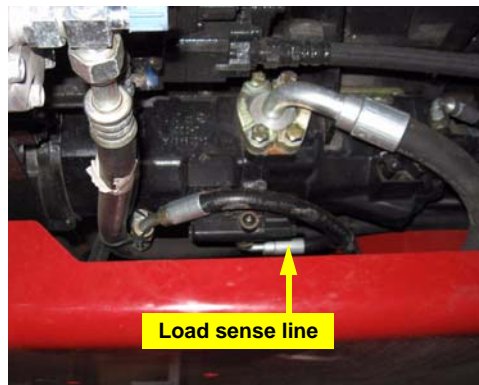

Figure 4b: Load sense line at pump
- b. Locate the front hydraulic pump on the front left side of the engine. Locate the load sense line (Figure 4b).